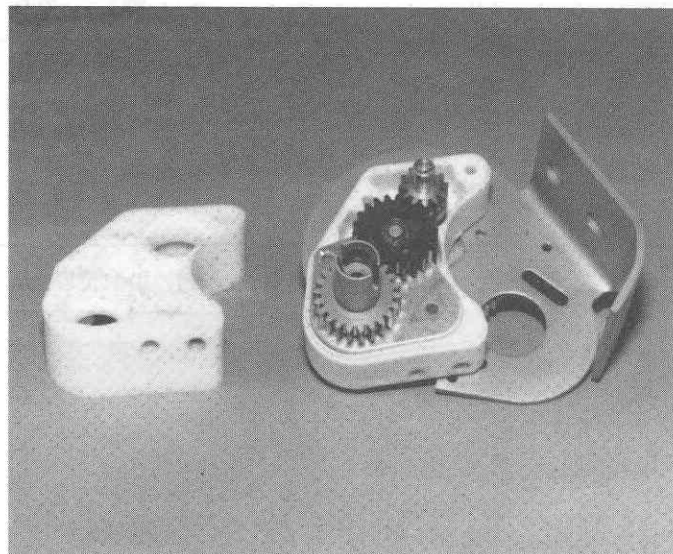

Fig. 86
- ☐ **Fig. 86** Take the L.H. side of the housing and push it onto the R.H. side. It will snap together with finger pressure.